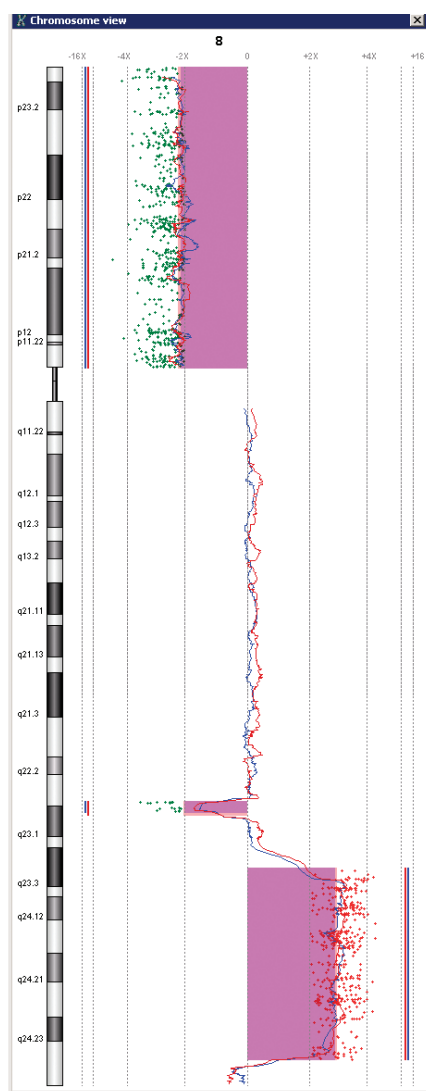

Figure 1. Intuitive visualizations quickly highlight interesting regions
- **Instant access to biologically relevant data** – Rapidly elucidate global patterns of interesting genomic aberrations at varying levels of detail in single or multiple microarray profiles simultaneously (Figure 1).